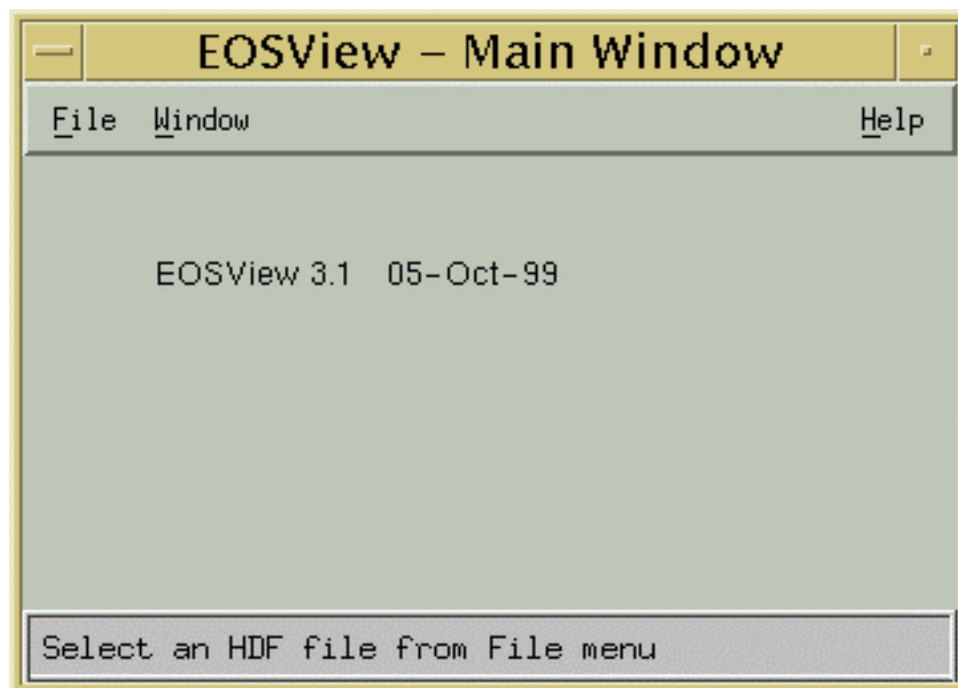

Figure 4.12.5-1. EOSView Main Screen
The EOSView Main Window shown in Figure 4.12.5-1 displays the current version of EOSView and date.
- **Open** -- This causes a file selection dialog to appear (shown in Figure 4.12.5-2)